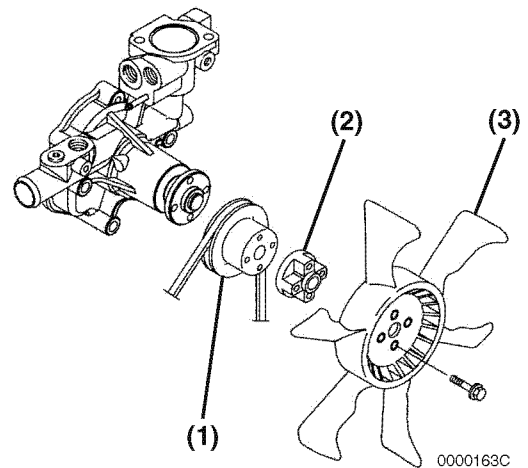

Figure 9-21
7. Install the cooling water pump V-pulley (**Figure 9-21, (1)**), spacer (**Figure 9-21, (2)**), cooling water fan (**Figure 9-21, (3)**), and fan guard (if equipped).